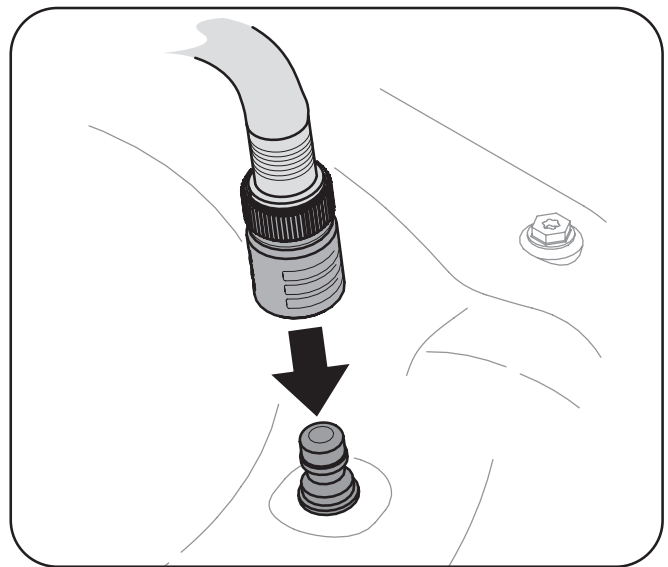

Figure 6-2
3. Attach the hose coupler to the water port on your deck's surface. See Fig. 6-2.